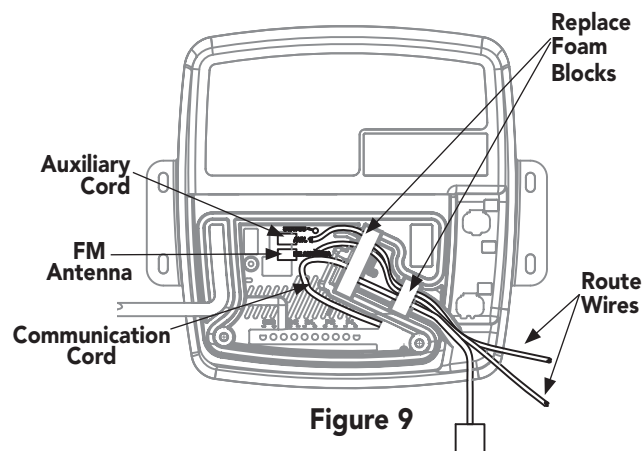

Figure 9
1. Plug the included FM antenna into the antenna output and route the wire through the strain relief channel as illustrated (**Figure 9**). For best reception, fully deploy the antenna in a vertical orientation outside of the AudioSteam housing.
2. Connect a 1/8" (3.5 mm) stereo audio cord (not included) to the auxiliary output, and route the cable through the strain relief channel as illustrated (**Figure 9**). Connect the free end of the audio cord to a mobile device or digital music player.
3. Replace the foam block inserts (**Figure 9**).